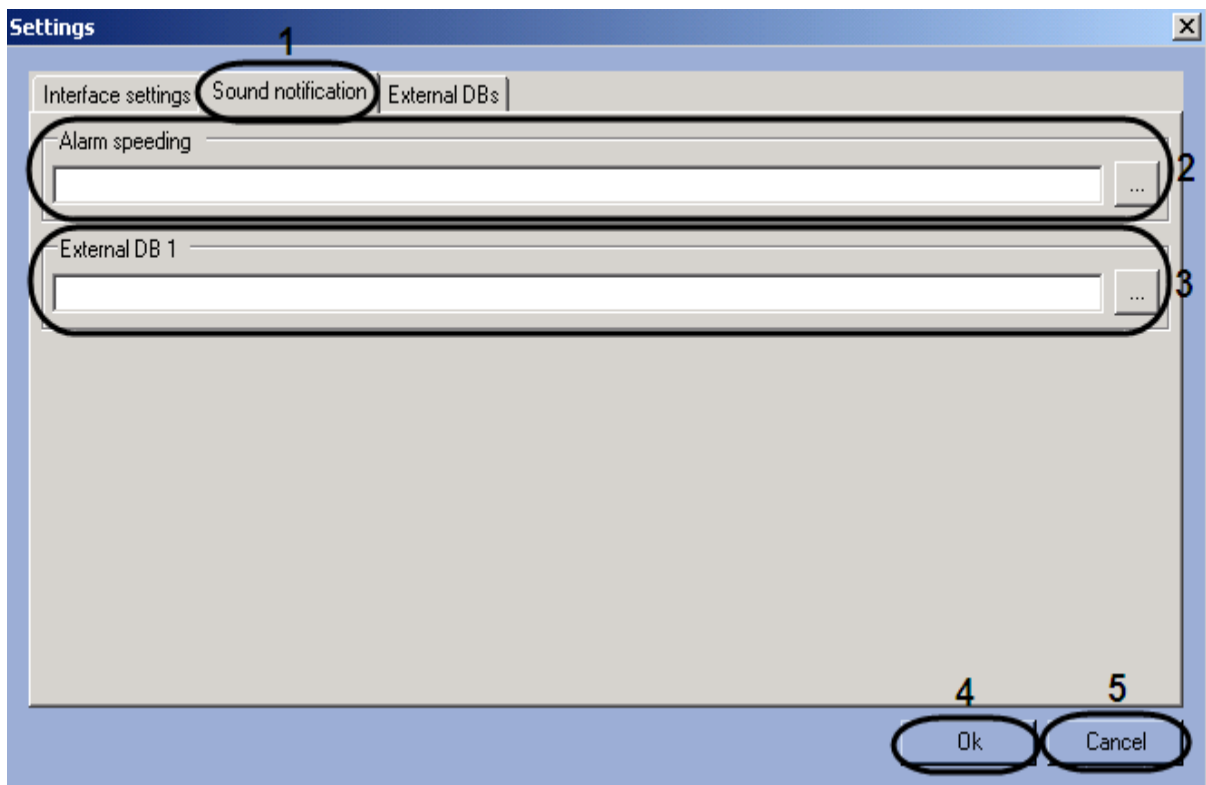

Fig. 7.8-10 Sound files selection
3. Go to the Sound notification tab in the opened dialog window (Fig. 7.8-10,1).
4. To set the sound notification with vehicle's overspeeding click « ... » button on the right of Alarm speed exceeded field (Fig. 7.8-10, 2). In the opened standard dialog window Open the required sound file and then click Open. In result the full path to the fill will be displayed in the field Alarm speed exceeded (Fig. 7.8-10, 2).
5. To set the sound notification while identifying the recognized number in the External Plates Database click t « ... » button on the right of the field, corresponding to the required database (Fig. 7.8-10, 3). In the Open standard dialog window select the required sound file and then click Open. In result the full path to the fill will be displayed in the corresponding field.
7. Click OK to save the changes and close the Settings dialog window (Fig. 7.8-10, 4).
*Note. Click Cancel to close the Settings dialog window (Fig. 7.8-10, 5).*